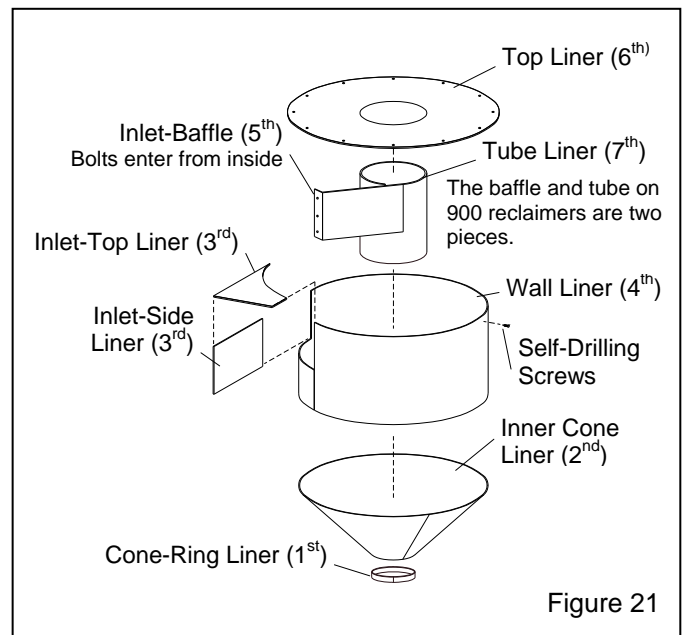

Figure 21
7.10 Replacing or Field Installing Optional Rubber Reclaimer Liners, Figure 21. The reclaimer must be designed for liners and have a removable top. If the reclaimer is currently unlined, begin at the installation note preceding Paragraph 7.11.9.
Installation Note: The numbers in parentheses () shown in Figure 21 and the applicable paragraphs, show the recommend order of installation. When installing the liners, make sure that seams are aligned. The final assembly must be smooth and free of protrusions, edges, and gaps. Any edges will disrupt the air flow, causing wear, and affect the reclaimer's media cleaning efficiency.